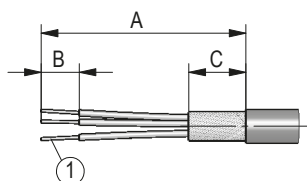

Fig. 9: Cable
1. Prepare wire according to Fig. 9. Ferrules must have gas-tight square crimping.